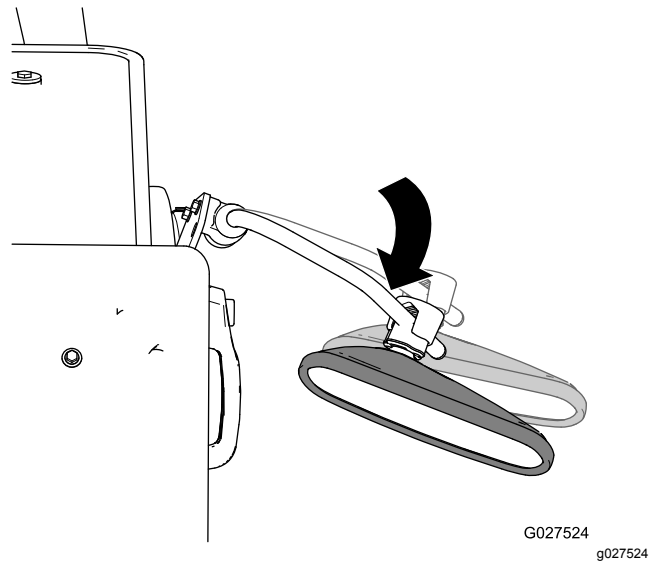

Figure 7
2. To adjust the position of the mirror and support arm, swing the support arm toward the cab or away from it (Figure 7).